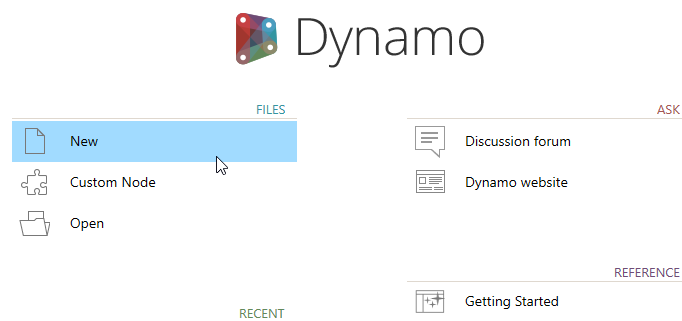

Figure 7
1. Click the New button on the welcome screen, to create a new Dynamo file (called a "graph") (see Figure 7).